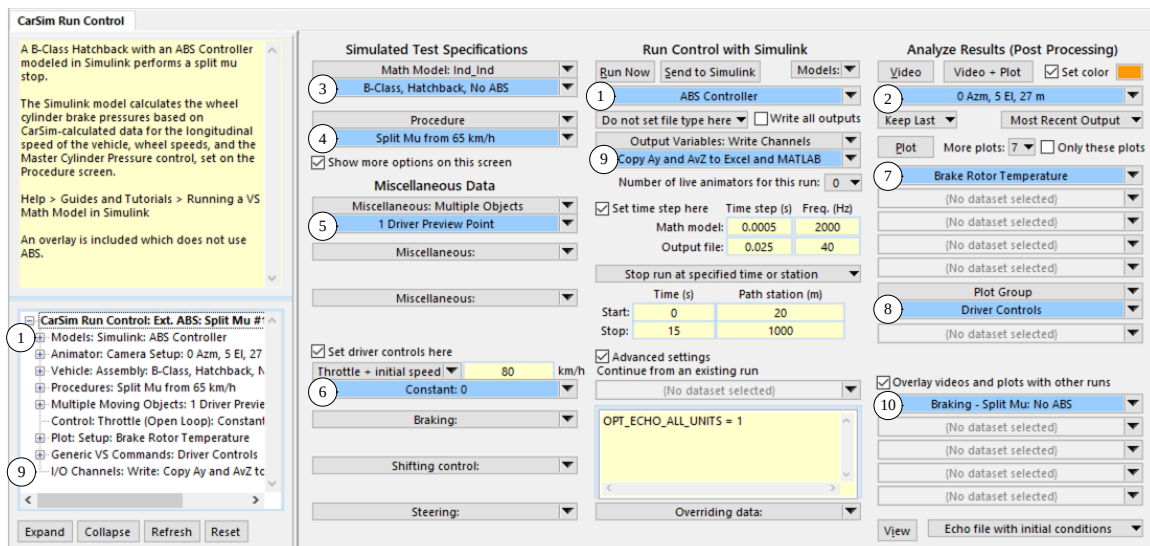

Figure 17. The sidebar shows the order in which the linked Parsfiles are read.
Figure 17 shows an example dataset where the sidebar shows nine linked datasets. The nine blue fields are identified with circled numbers ① - ⑨, with the number corresponding to the order in which the link appears in the sidebar. Note that the first ① is a Simulink model dataset, and the last ⑨ is a dataset for output variables.